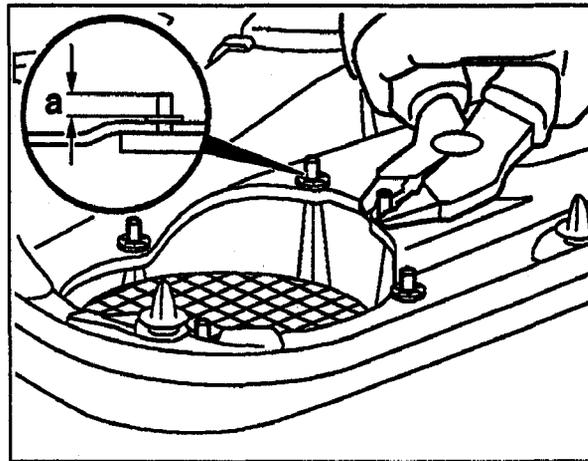

Figure 2
4. Trim the studs to 1 mm above the clip (Figure 2).